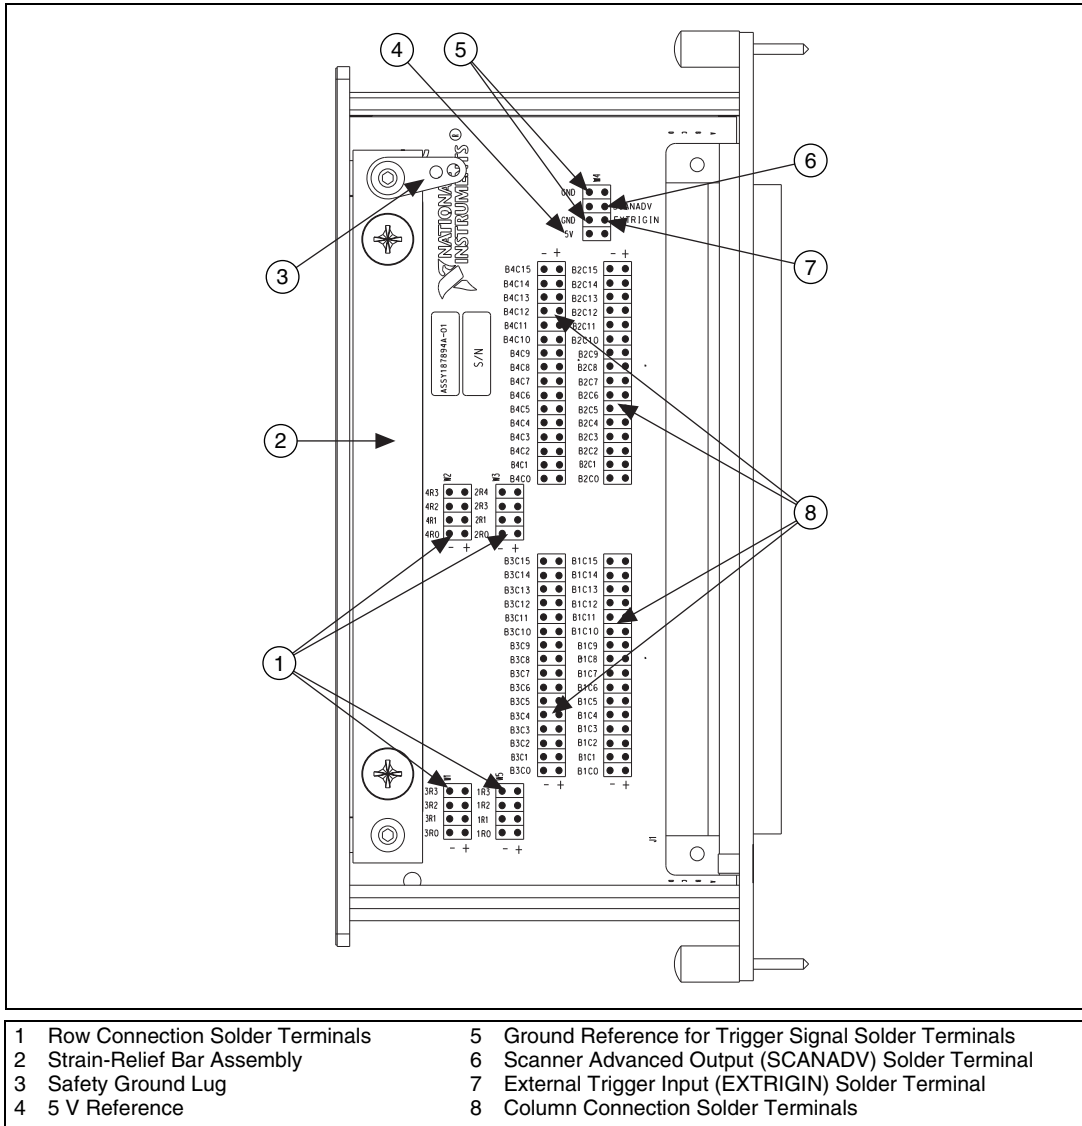

Figure 6. SCXI-1384K Custom Terminal Block Signal Connections
If hazardous voltages ($\geq 30 V_{\text{rms}}$ and $42.4 V_{\text{peak}}$ or 60 VDC) are present, you *must* connect a safety earth-ground wire to the cable safety-ground lug, shown in Figure 6. This complies with safety agency requirements and protects against electric shock when the cable is not connected to the chassis. To connect the safety earth-ground to the safety-ground lug, run an earth-ground wire from the signal source to the cable. NI is *not* liable for any damages or injuries resulting from inadequate safety earth-ground connections.
4. Connect the wires to the terminals by soldering the stripped end of the wire onto the terminal. Trim all soldered connections to a 1/16 inch maximum on the back side of the PCB. When connecting your signals, refer to the labeling in Figure 6.